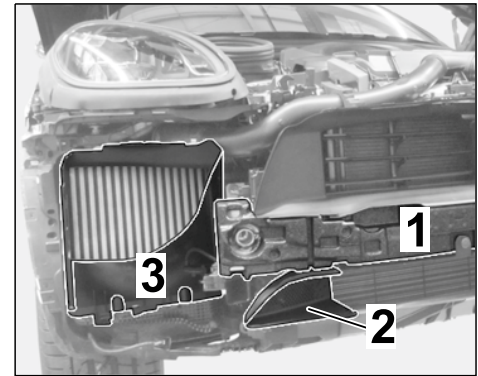

Figure 16 (Turbo)
3.1.1 Replace plastic foam strip (front ⇒ *Figure 16 (Turbo) -1-*) with new plastic foam strip (⇒ *Workshop Manual '631019 Removing and installing front bumper*).
3.1.2 Replace air flap (left/right ⇒ *Figure 16 (Turbo) -2-*) with new air flap (left/right) (⇒ *Workshop Manual '631019 Removing and installing front bumper*)
3.1.3 Replace air guide for charge-air cooler (left/right ⇒ *Figure 16 (Turbo) -3-*) with new air guide (left/right) (⇒ *Workshop Manual '211019 Removing and installing air guide for charge-air cooler*).